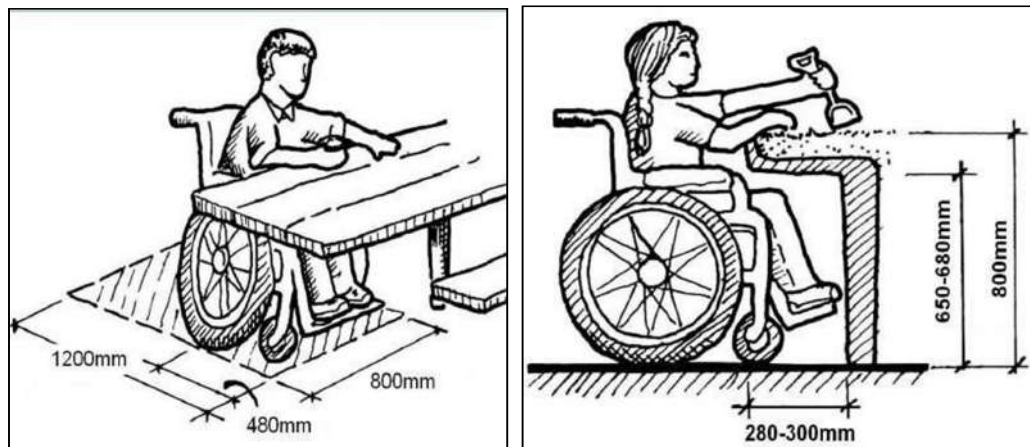

Figure 5.42 Standards for multi-use tables
- Some seats with removable or flip-up armrests should be provided at row ends to accommodate a wheelchair user or a person with limited ambulatory mobility. A level floor area for wheelchair users should be placed at row ends and should be scattered on different levels so as to have a variety of seating and viewing locations (**Figure 5.42**).